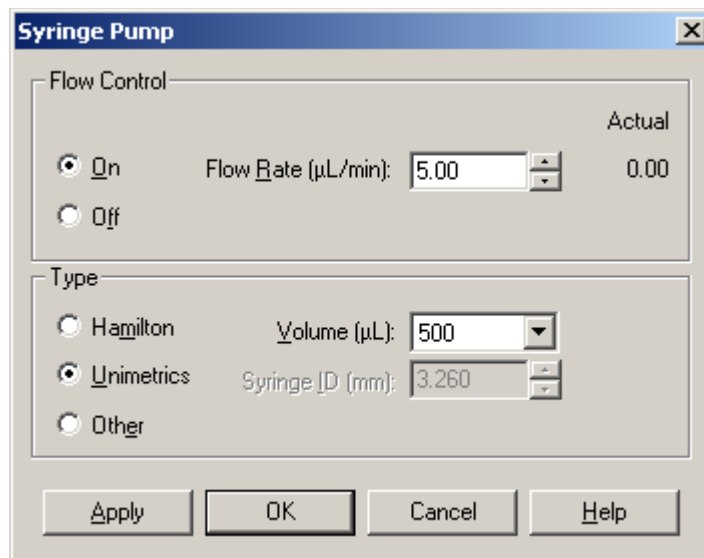

Figure 38. Syringe Pump dialog box
5. Click on the Syringe Pump button to display the Syringe Pump dialog box. See Figure 38.